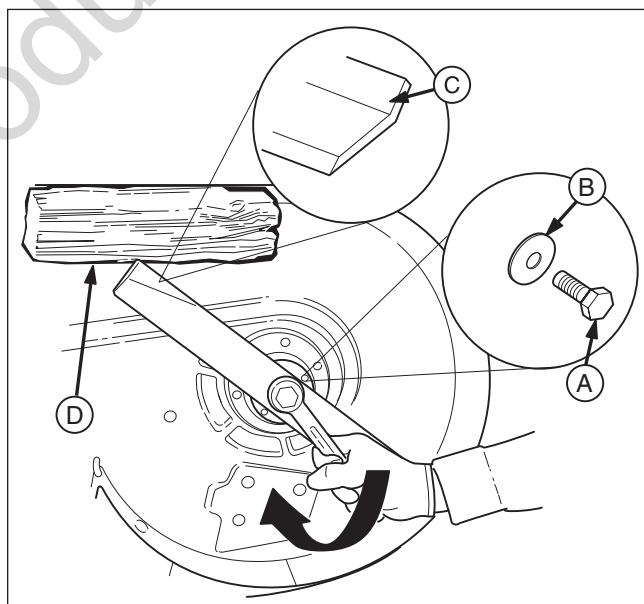

Figure 26. Tightening the Mower Blade for Installation
1. Reinstall each mower blade with the air lifts pointing up towards the mower deck as shown in Figure 26. Secure with the mower blade mounting bolt and flat washer (A & B, Figure 26) and torque to 70 ft. lbs (94 Nm).